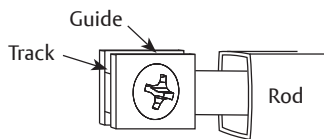

Figure 9
1. Turn guide “I” so track is horizontal. (Figure 9)